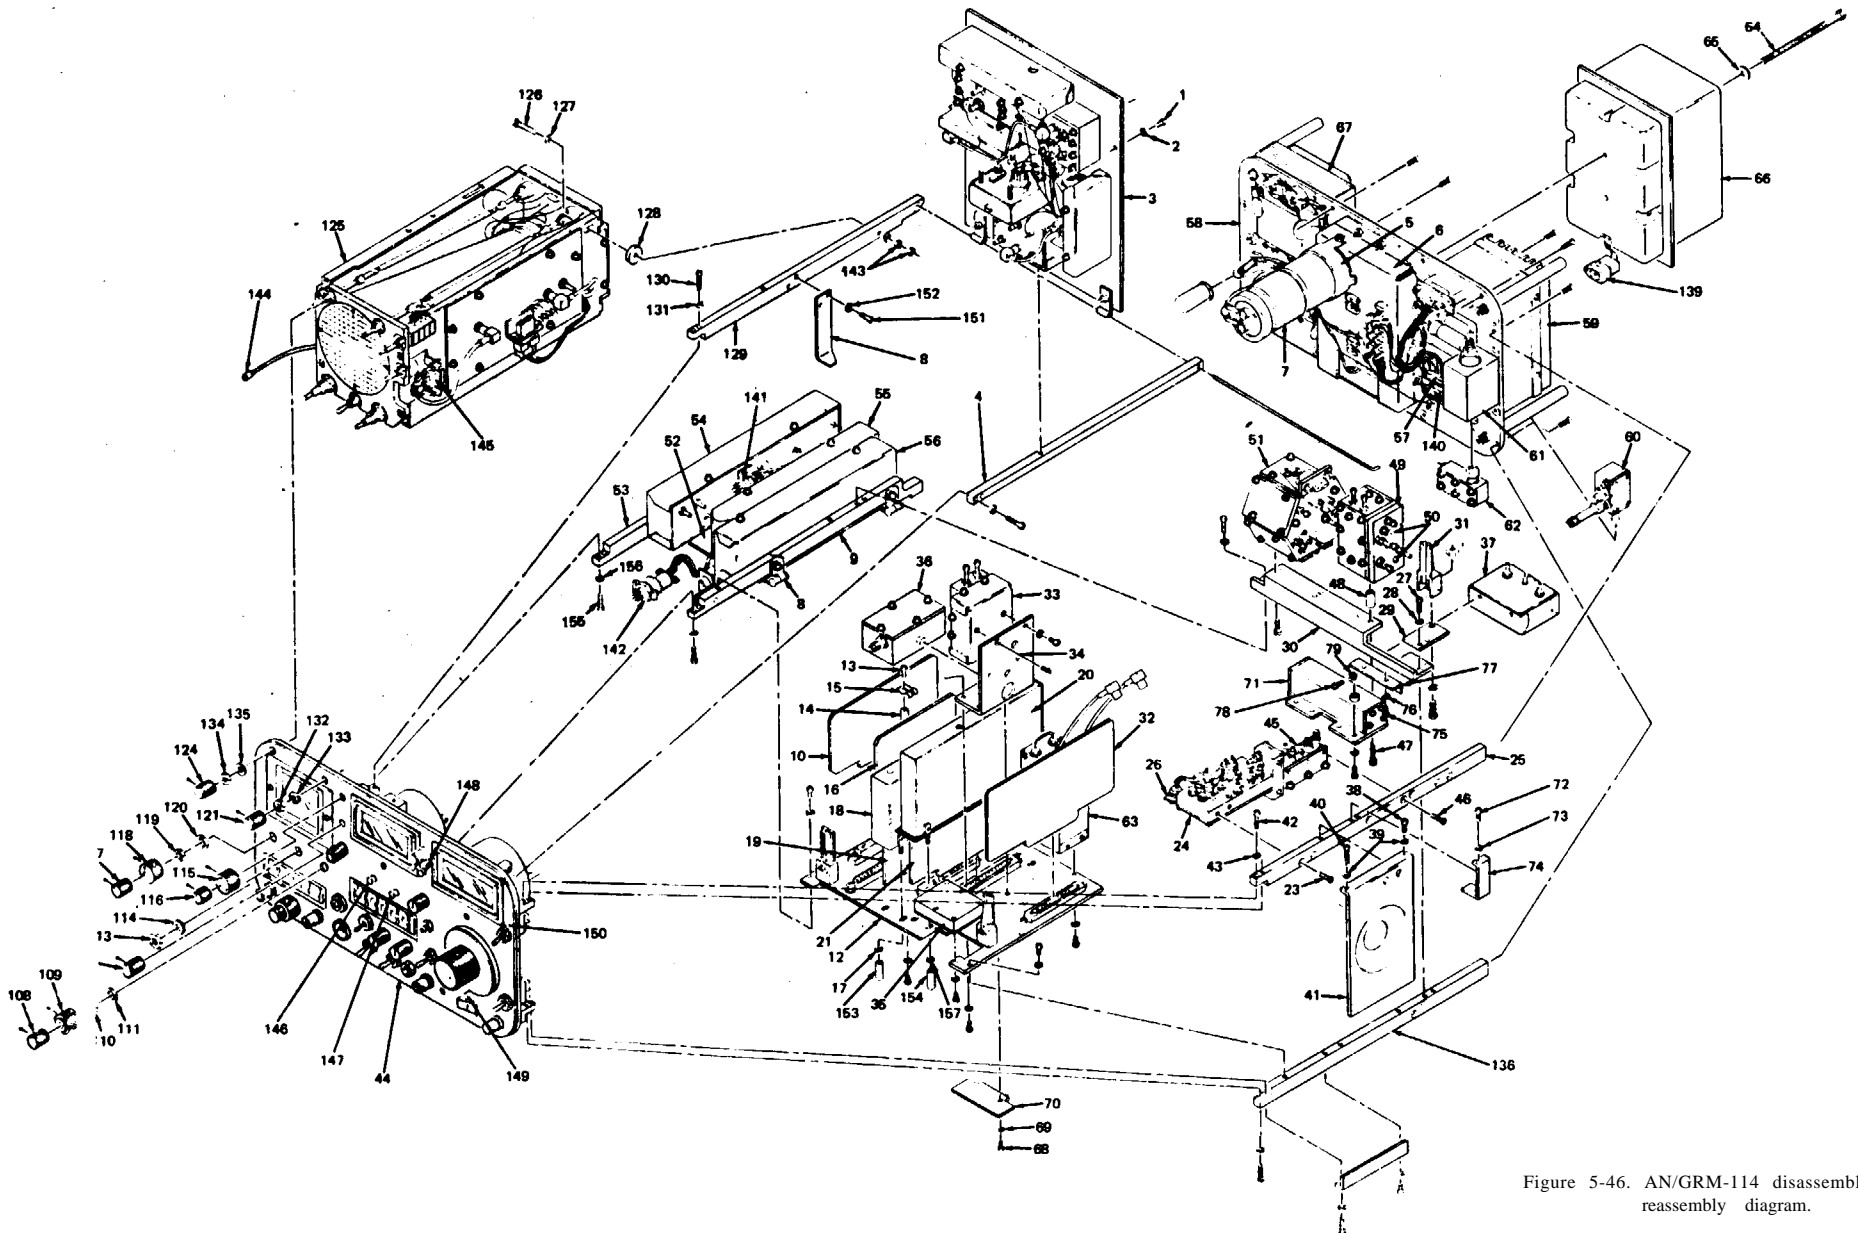
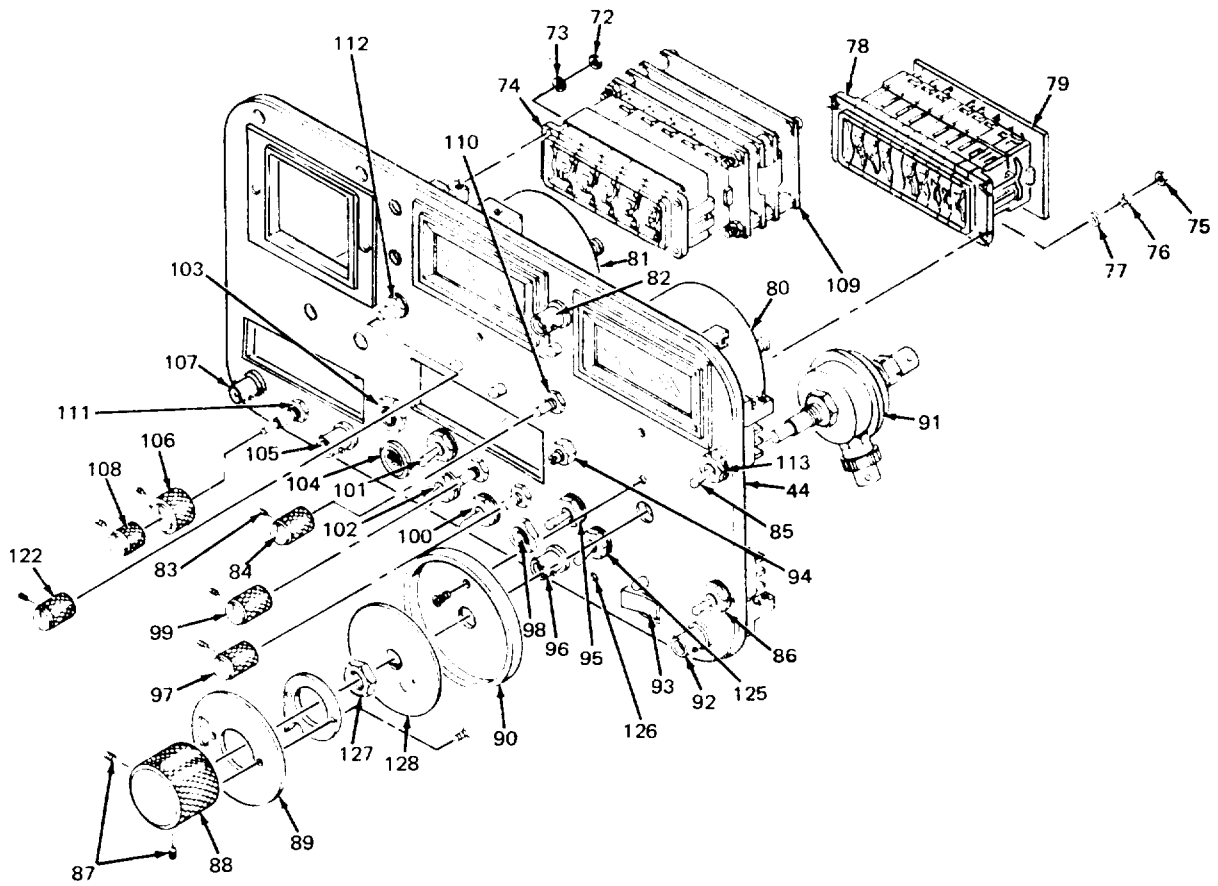

Figure 5-46. AN/GRM-114 disassembly reassembly diagram.
Figure 5-47. Front panel disassembly/reassembly diagram.
- (92) Attach two screws which hold DEVIATION (KHz)/WATTS meter (80) to rear of Front Panel (44). Install terminal lugs on rear of meter with two hex nuts (figure 5-47).
- (93) Install FREQ ERROR (KHz) meter (81) to Front Panel (44) (figure 5-47).
- (94) Attach two screws which hold FREQ ERROR (KHz) meter (81) to rear of Front Panel (44) (figure 5-47).
- (95) Install terminal lugs on rear of meter with two hex nuts.
- (96) Install Modulation Freq. Hz (Dual Tone Generator) switch assembly (74) to Front Panel (44). Install connector to bottom rear of PCB (109) (figure 5-47).
- (97) Attach four hex nuts (72) and four lockwashers (73) which hold switch mechanical assembly (74) to Front Panel (44) (figure 5-47).
- (98) Secure left-hand phase-lock lamp socket (146) to rear of Front Panel (44) (figure 5-46).
- (99) Solder tagged wires to lamp socket.
- (100) Secure lamp cover to Front Panel (44) (figure 5-46).
- (101) Secure right-hand and phase-lock lamp socket (147) to rear of Front Panel (44) (figure 5-46).
- (102) Solder tagged wires to lamp socket.
- (103) Secure lamp cover to Front Panel (44) (figure 5-46).
- (104) Secure INPUT LEVEL lamp socket (148) to rear of Front Panel (44) (figure 5-46).
- (105) Solder tagged wires to lamp socket.
- (106) Secure lamp cover to Front Panel (44) (figure 5-46).
- (107) Secure Power ON lamp socket (149) to rear of Front Panel (44) (figure 5-46).
- (108) Solder tagged wires to lamp socket.
- (109) Secure lamp cover to Front Panel (44) (figure 5-46).
- (110) Secure 0 dBm lamp socket (150) to rear of Front Panel (44) (figure 5-46).
- (111) Solder tagged wires to lamp socket.
- (112) Secure lamp cover to Front Panel (44) (figure 5-46).
- (113) Attach coax cables to TRANS/RCVR connector (92), 10 MHz REF OUT connector (96), ANT INPUT connector (82), and SCOPE IN connector (107) (figure 5-47).
- (114) Attach one 1/2" Phillips screw (42) and one lockwasher (43) to secure frame support member (25) to Front Panel (44) (figure 5-46).
- (115) Attach Phillips screws and lockwashers which hold frame support members to Front Panel (44) (figure 5-46).
- (1) Install Spectrum Analyzer Assembly (125) to top left frame support member (129) and Front Panel (44) (figure 5-46).
- (2) Attach Spectrum Analyzer Assembly (125) to frame support member (129) with two hex nuts (143) and one lockwasher on one screw (126). Install connectors at (144) and (145) (figure 5-47).
- (3) Attach two screws (130), two lockwashers (131) that hold top left frame support member (129) to Front Panel (44). Tighten frame support member (129) to Front Panel (44) (figure 5-46).
- (4) Attach socket head screws with Allen wrench to INTENSITY control (124). Attach control (124), one hex nut (134), and one washer (135) (figure 5-46).
- (5) Attach socket head screws with Alien wrench to FOCUS control (121). Attach control (121) one hex nut (132) and one washer (133) (figure 5-46).
- (6) Attach socket head screws with Allen wrench to VERT control (115). Attach control (figure 5-46).